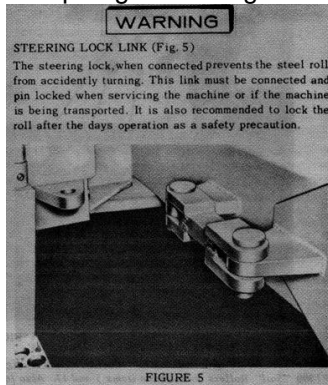

FIGURE 5
- 2 Disconnect the steering lock link (painted red) between roll frame and main frame. Refer figure 5
2 Depress Parking Brake (15) Lock Connect steering lock link See figure 5 .